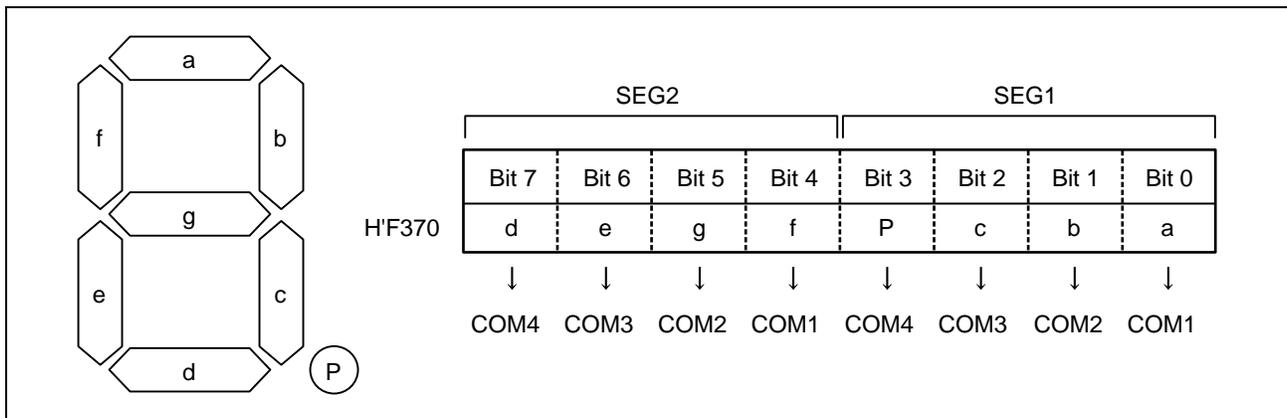

Figure 6 Relationship of LCD RAM Set Values and LCD Display/Non-Display
- (5) The relationship of LCD RAM to SEG1 and SEG2 of the LCD panel is shown in Figure 6. When 1 is set in LCD RAM bits corresponding to a through g and P, as shown in Figure 6, the LCD display is turned on, and when 0 is set in these bits, the LCD display is turned off.